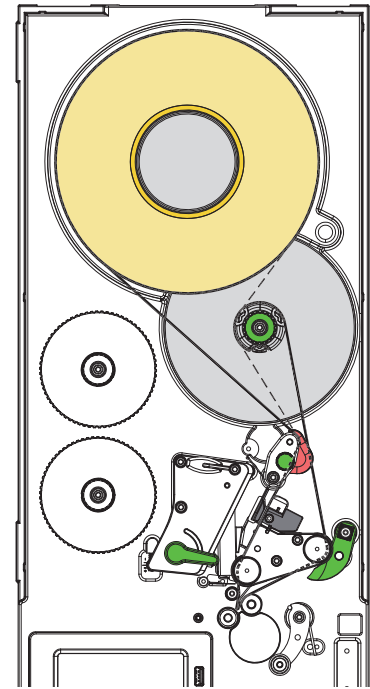

Figure 9 Label feed path
1. Put the label roll (5) onto the roll retainer (6).
3. Turn lever (2) counterclockwise to lift the printhead (1).
4. Unlock the pinch roller (12) from the rewind assist roller (13).
6. Guide the label strip as shown in Figure 9 trough the label sensor (3), around the dispense plate (14) and the rewind assist roller (13) to the rewinder (8).
7. Adjust the guide (10) with the knob (4) in such a way that the label strip will be guided without clamping.
8. Hold rewinder (8) firmly and turn knob (7) clockwise until it stops.
9. Push label strip under a bracket (9) of the rewinder (8) and align the outer edge of the label strip to the label roll.
10. Turn knob (7) counterclockwise until it stops.